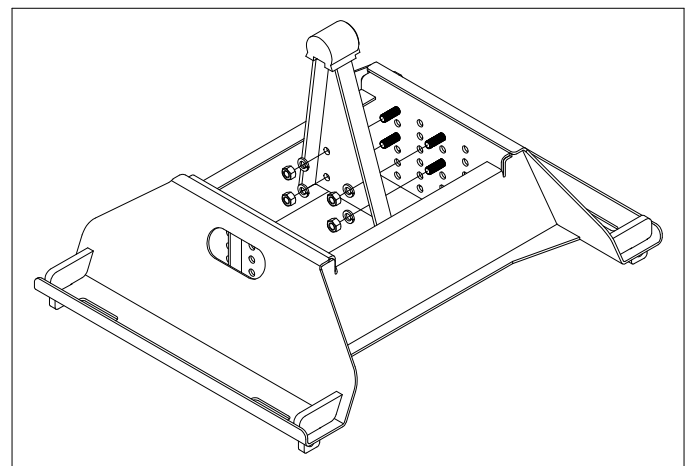

FIGURE A3: View looking into base.
3. Align the flat side of the pivot arm flat against the bolt plate while passing the pivot arms over the 1/2" cap screws. Install four 1/2" Lock washers and 1/2" hex nuts, as shown in figure A3. After the pivot arms and bolts are in place, torque each bolt to 80 ft-lbs.